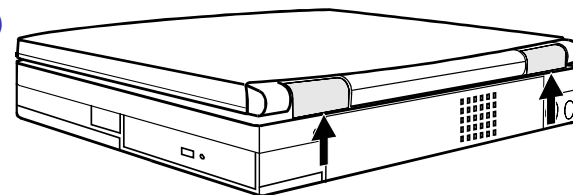

Figure 5-19. Removing the Hinge Covers
3. Replace the two hinge covers.(fig 5-19)